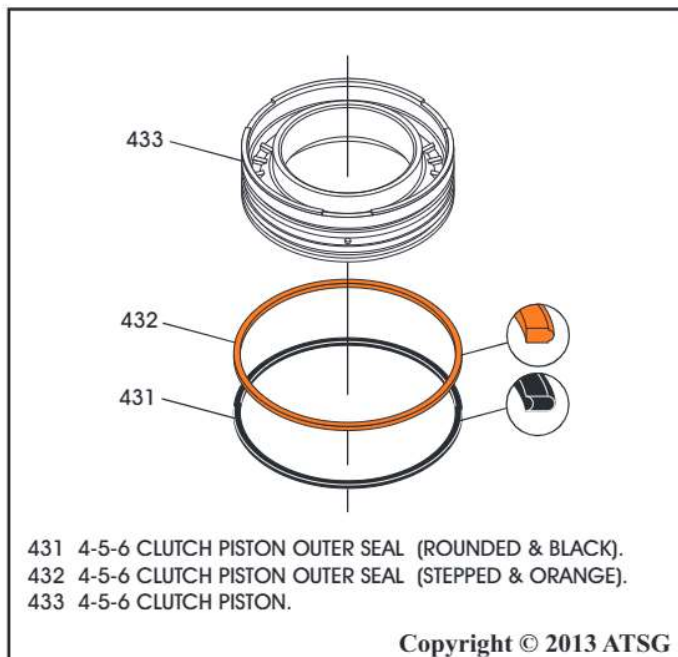

Figure 149
29. Install new 4-5-6 clutch piston outer seal into the upper groove, as shown in Figure 149.
Note: This seal is "Stepped" and orange in color for identification, as shown in Figure 149.
30. Install new 4-5-6 clutch piston outer seal into the lower groove, as shown in Figure 149.
Note: This seal is "Rounded" and black in color for identification, as shown in Figure 149.